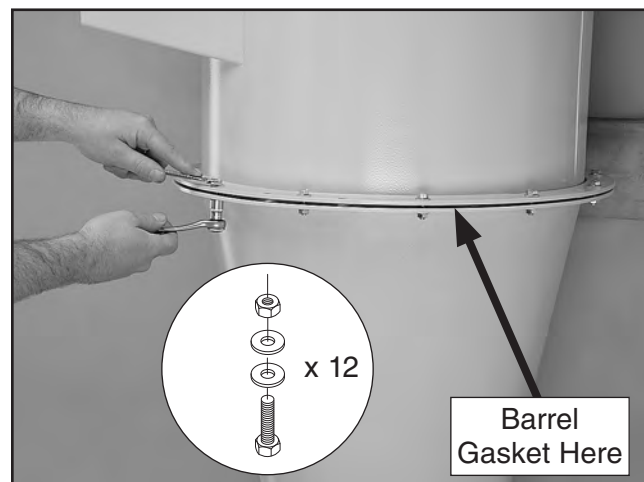

Figure 16. Cyclone funnel attached to intake barrel.
9. Attach the cyclone funnel to the intake barrel with a barrel gasket between them, as shown in **Figure 16**, using (12) $\frac{5}{16}$ "-18 x 1" hex bolts, (24) $\frac{5}{16}$ " flat washers, and (12) $\frac{5}{16}$ "-18 hex nuts; also secure the wall mounting brace to the lip of the intake barrel/funnel assembly with the same hardware.